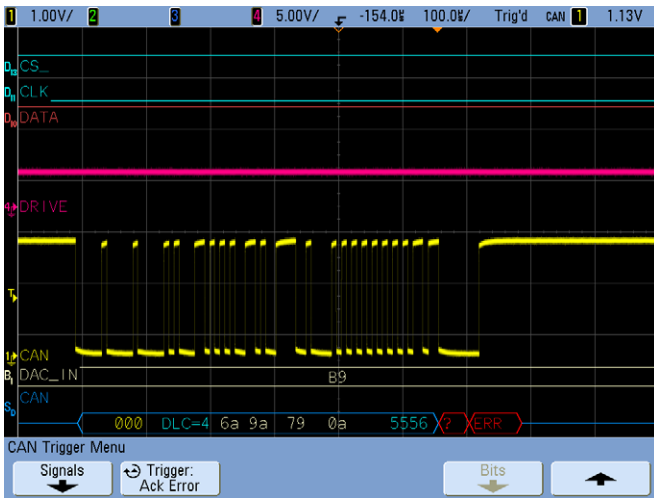

Figure 3 Triggering on Acknowledge Error
- 19 Press **[Run]**, turn off the Zoom time base mode (press “Normal” in the “Horizontal” menu), and set the main time base back to 100 μ s/div. To synchronize on the “missing acknowledge” error frame, you can select to trigger specifically on “Acknowledge Error” to capture this particular frame (000 hex) as shown in Figure 3.